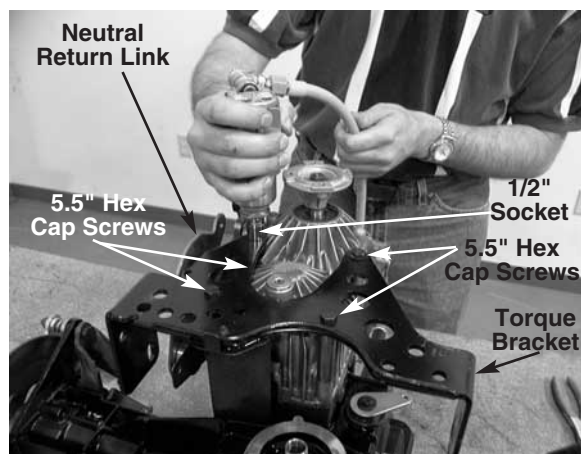

FIGURE 6.
11. Remove all four- 5.5" hex cap screws from the torque bracket using a 1/2" socket. See figure 6.